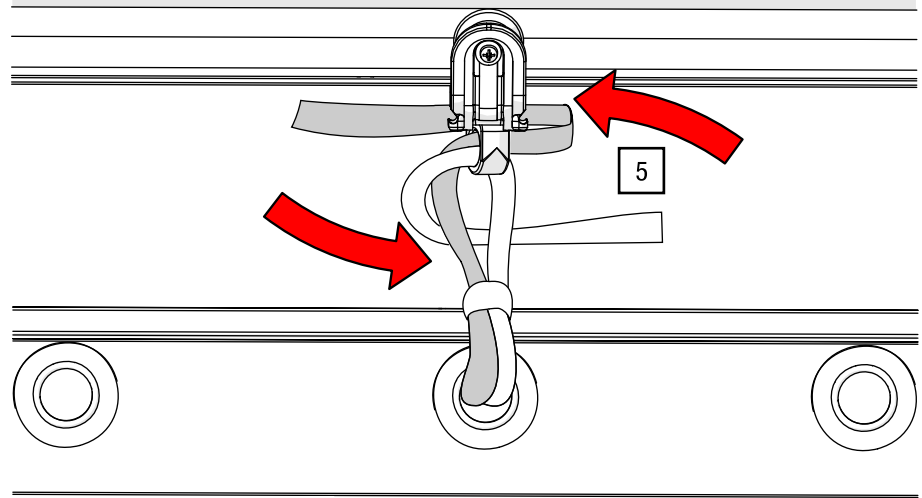

Fig. 93: Tie line – Fold ends back
5. Fold the loose ends back in opposite directions (see Fig. 93).